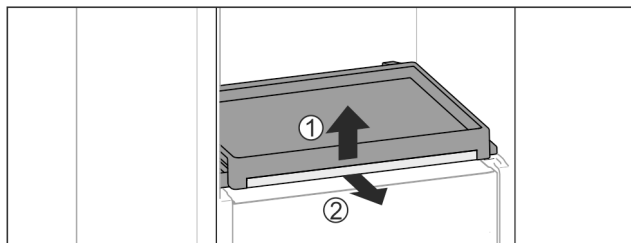

Fig. 95
- ▶ To remove the pull-out board with glass panel: Gently lift the glass panel at the front Fig. 95 (1) and pull out to the front Fig. 95 (2).